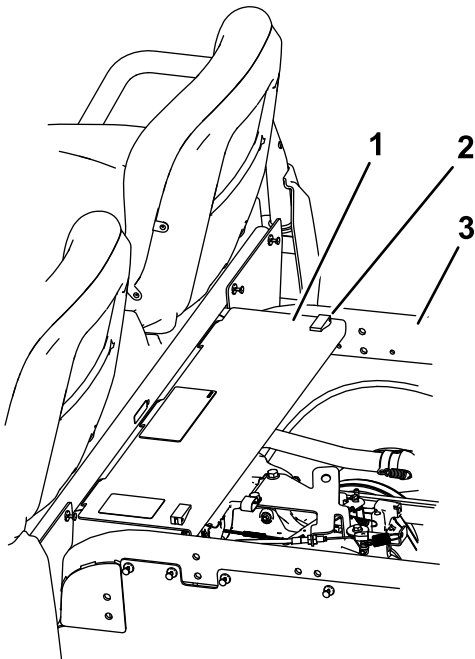

Figure 2
8. Remove the rear frame panel cover by releasing the latches and lifting the cover from the rear frame (Figure 2).